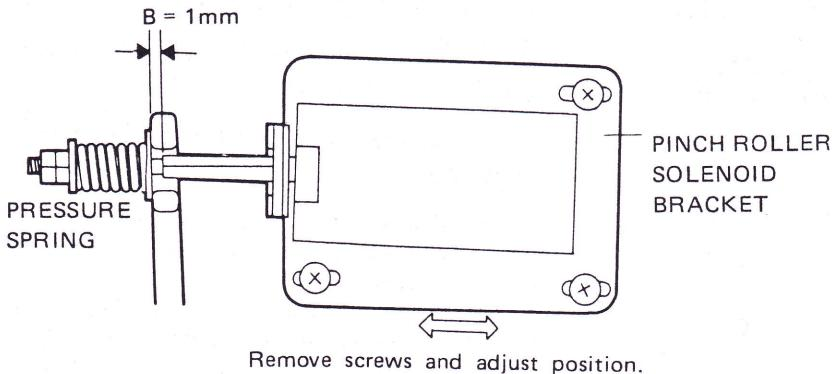

Fig. 22
6.4 PINCH ROLLER PRESSURE ADJUSTMENT (Figs. 22, 23)
4. Make sure that the gap B shown in Fig. 22 is 1mm.